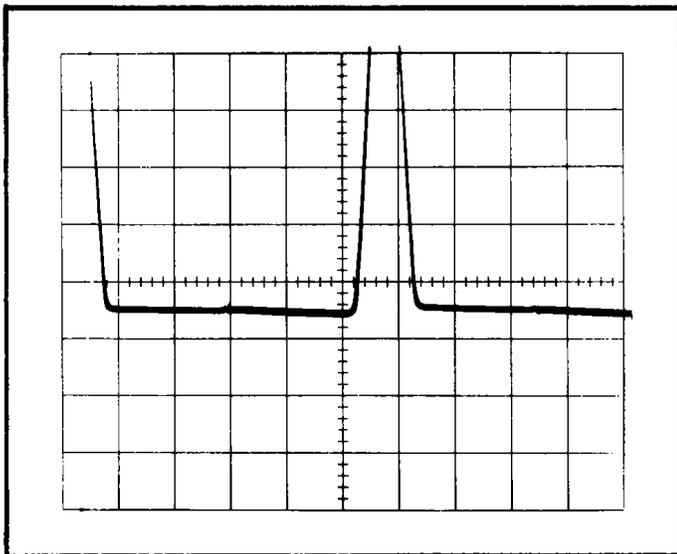

Fig. 5-8. Test oscilloscope waveforms when Horizontal Amplifier Limiting Centering is properly adjusted.
g. CHECK—The base line of both displayed waveforms should be at the same DC level within 0.2 division (see Fig. 5-8).